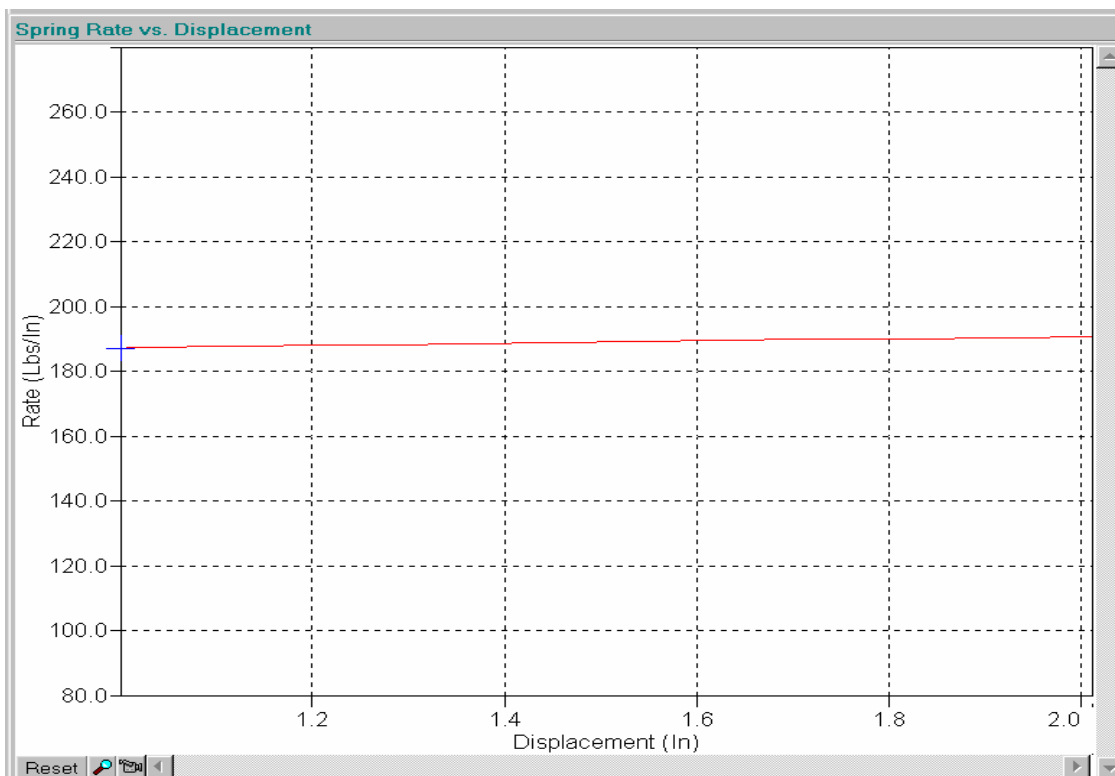

figure:10
**Spring rate vs displacement** (figure:10) depicts the spring rate by calculating the change in force divided by the change in displacement between each recorded data point and plotting these points against spring displacement.